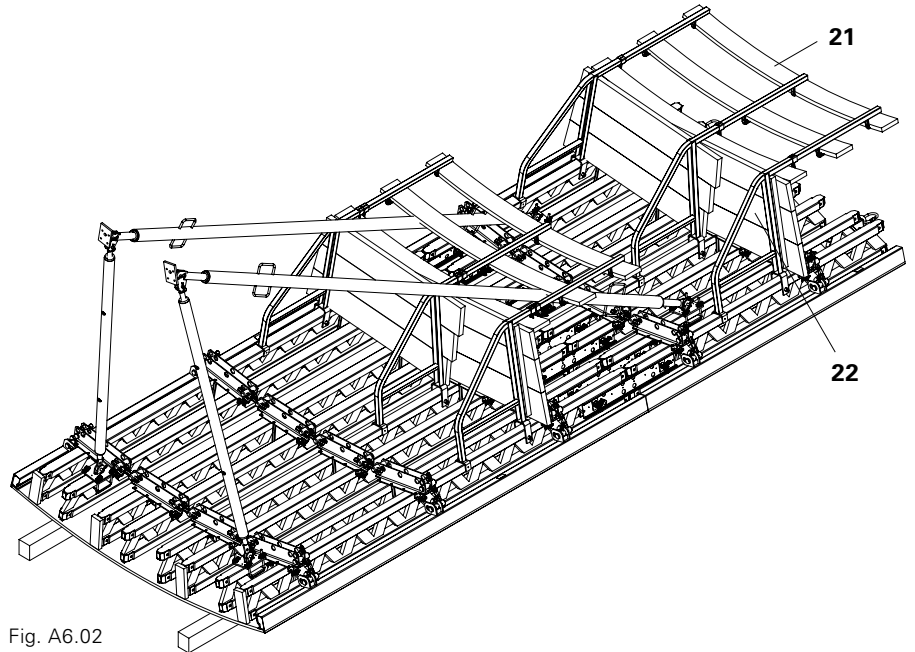

Fig. A6.02
1. Position scaffold boards (22) across the complete width of the bracket and secure against moving. Fix boards from below using Torx 6 x 40.
2. Mount guardrails (21) including toe board and secure with nails or screws!
4. Adapt scaffold boards, guardrails and toe boards to suit the push-pull props. (Fig. A6.02)